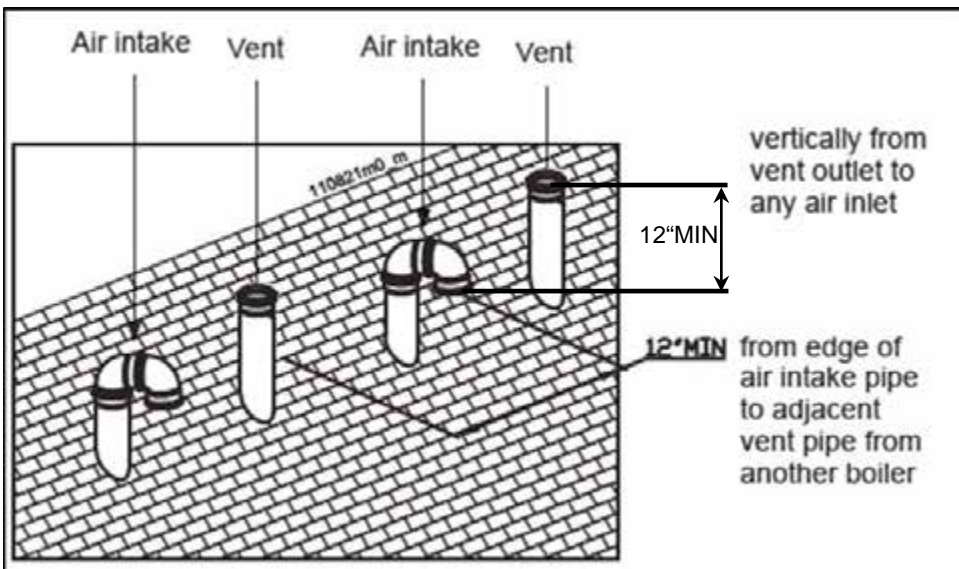

Figure 9-18
1. When terminating multiple boilers, terminate each vent/air connection as described in this manual (Figure 9-18).
2. Place roof penetrations to obtain minimum clearance of 12 inches (305 mm) between outside edge of air intake an exhaust vent of another boiler for U.S. installations (see Figure 9-18). For Canadian installations, provide clearances required by CSA B149.1 Installation Code.